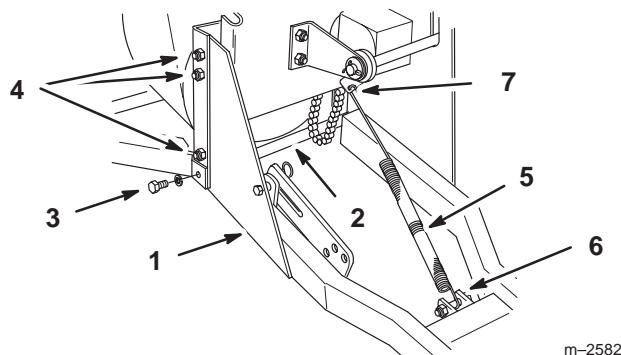

Figure 2
2. Remove cross bar from frame, secured by (2) bolts and lock washers (Fig. 2). Slide frame into housing and secure with cross bar, bolts and lock washers, previously removed and (6) 3/8 x 1" bolts (heads to the inside) and (4) 3/8" locknuts (Fig. 2).
3. Hook long end of spring between frame bolt and idler pulley bellcrank (Fig. 2).